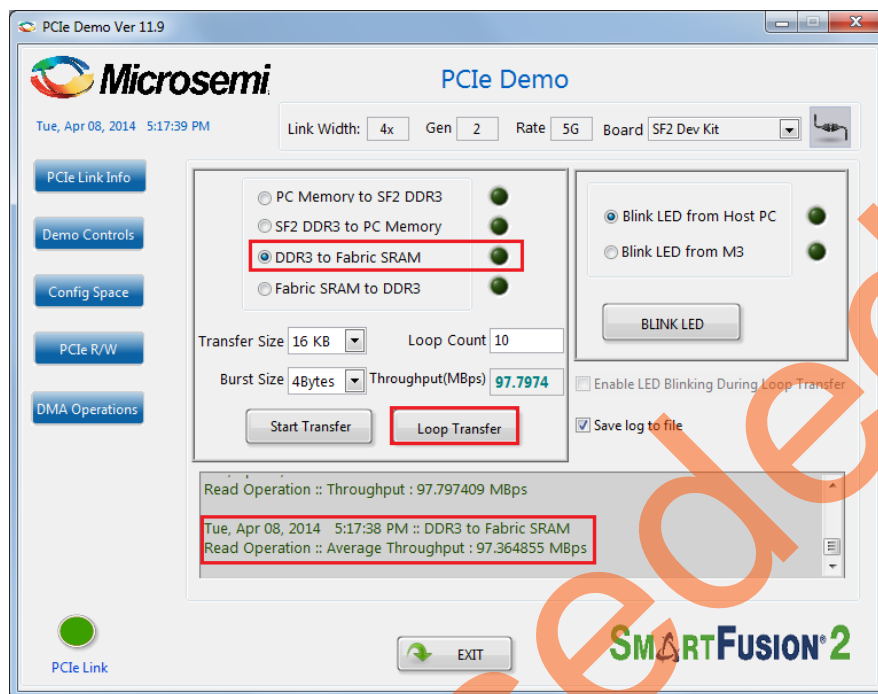

Figure 21 • DDR3 to Fabric SRAM Transfer Throughput
10. Select the type of DMA transfer as **DDR3 to Fabric SRAM**, select any **Transfer Size** and click **Loop Transfer** as shown in Figure 21.